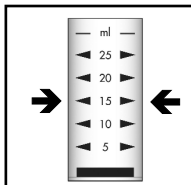

Figure 1
1. Fill the sample cup to the 15 mL mark with the sample to be tested (fig. 1).